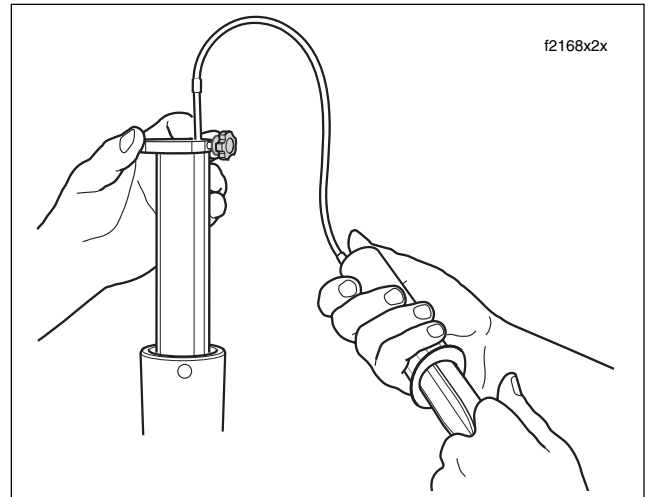

Figure 2-80. Remove Excess Fork Oil
- i. With the fork tube bottomed in the fork slider, insert rod until metal ring rests flat on top of fork tube. See Figure 2-80.
- f. With the fork tube bottomed in the fork slider, insert rod until metal ring rests flat on top of fork tube. See Figure 2-80.